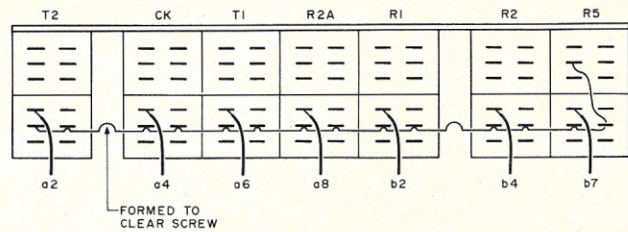

Fig. 4. Character selection contacts.
7. Refer to Fig. 4. Install a
8. Connect the seven jumpers referred to in step 6 as shown in Fig. 4.